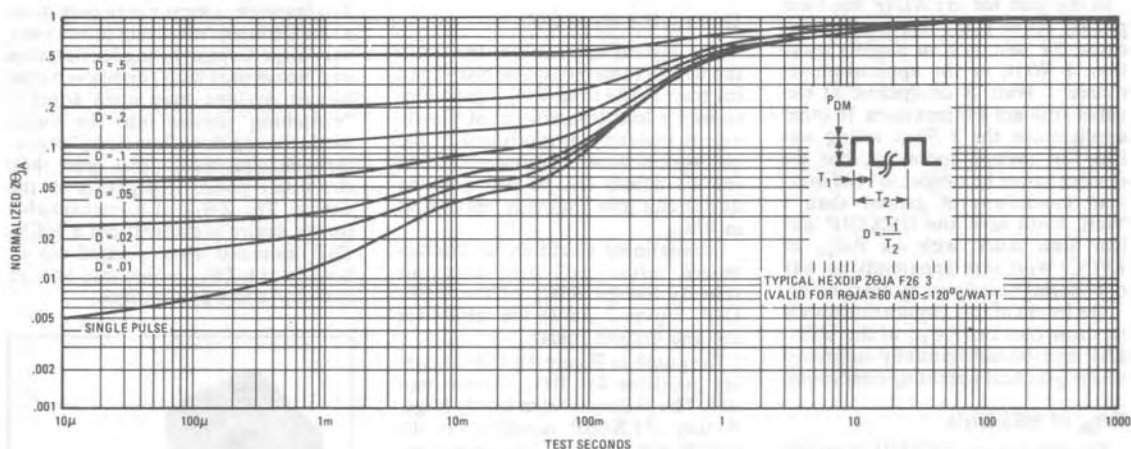

Figure 3. HEXDIP  $Z\theta_{JA}$  (typical). (Valid for  $R\theta_{JA} \geq 60^\circ\text{C/Watt}$  or  $\leq 120^\circ\text{C/Watt}$ .)
The  $Z\theta_{JA}$  of the HEXDIP spans a number of different thermal time constants. Two of these time constants are easily discernable from the graph in Figure 3. From 10  $\mu\text{s}$  to about 30 ms the shape of the curve is very similar to the  $Z\theta_{JC}$  curves common for power devices. The only basic difference at this point is that the normalized values are much lower than normally found in a TO-3 or TO-220 type of device. During this 10  $\mu\text{s}$  to 30 ms period,
Referring back to Figure 3, the effects of all of the above mentioned thermal time constants are fairly dramatic. A power MOSFET in a common TO-3 or TO-220 package may have a single pulse power rating at 100 ms which is 2, or at best 3 times the DC power rating. A HEXDIP has a 100 ms single pulse power capability, which is 10 times its DC power rating.
This corresponds to a 100 ms single pulse rating of between 10 and 20 Watts. (Curves in Figure 3 are conservatively valid for  $R\theta_{JA}$  between  $60^\circ\text{C/Watt}$  and  $120^\circ\text{C/Watt}$ .)
The  $Z\theta_{JA}$  graph in Figure 3 should prove to be useful to some applications, but caution is advised. The HEXDIP can easily withstand 10 Watts for 100 ms with a starting  $T_J$  of 25°C. If during normal operation the junction temperature is 100°C, the same HEXDIP will not withstand a power transient of 10 Watts for 100 ms. If the circuit is required to handle high power for brief periods, then it is
For repetitive power transients of duty factors which are not included in Figure 3, the formula is:
- (6) Utilize the  $Z\theta_{JA}$  of the HEXDIP where applicable (Figure 3).
- (7) Test thermal performance of the HEXDIP under the most authentic operating conditions possible. □